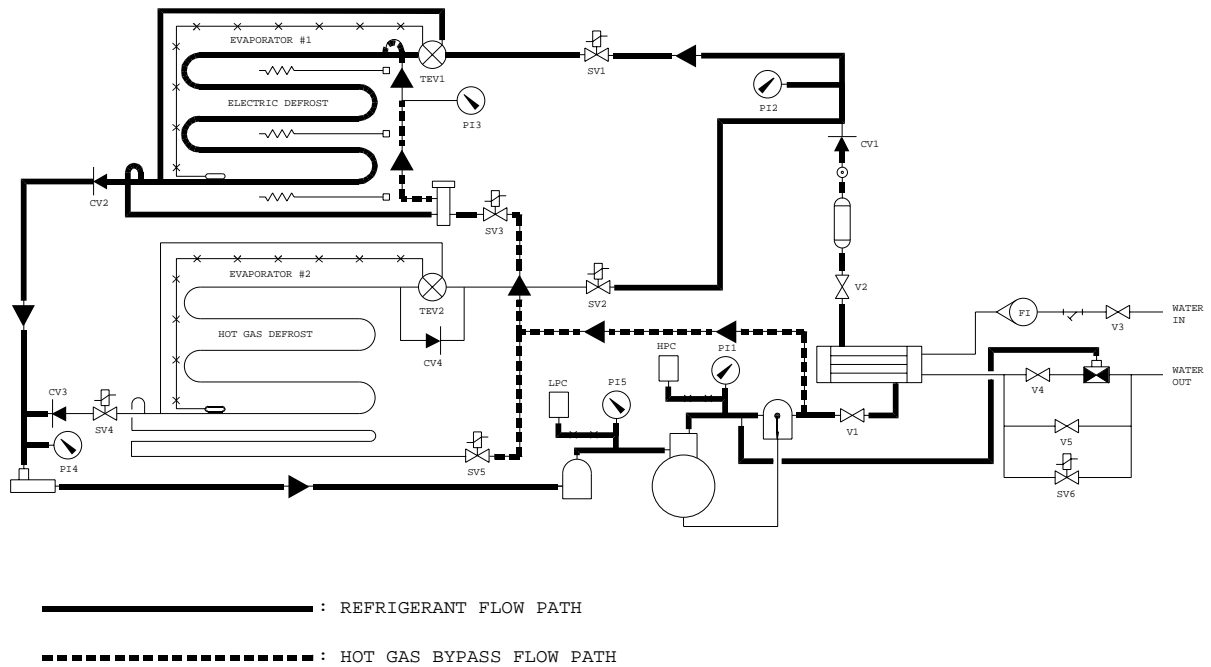

Figure 4-9. Refrigerant and bypass flow paths.
**Note:** Figure 4-9 shows the refrigerant and bypass flow paths for the circuit used in this exercise.